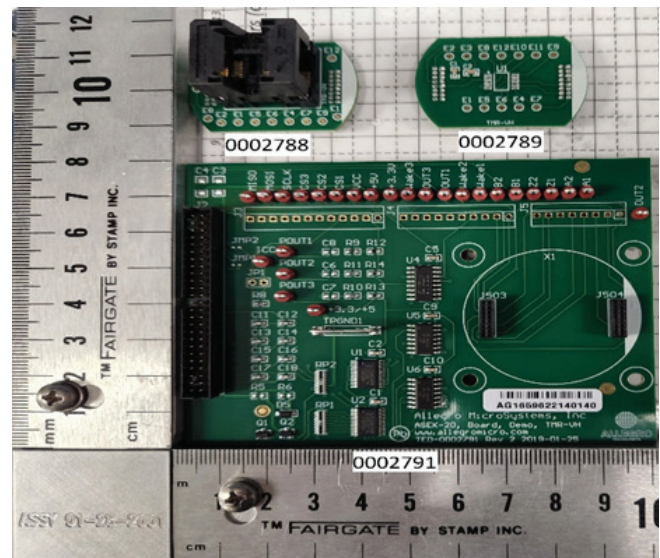

Figure 2: A33110 (A33115) Programming Subkit
- A33110 (A33115) programming subkit [ASEK33110-T-SUBKIT (ASEK33115-T-SUBKIT); see Figure 2]: